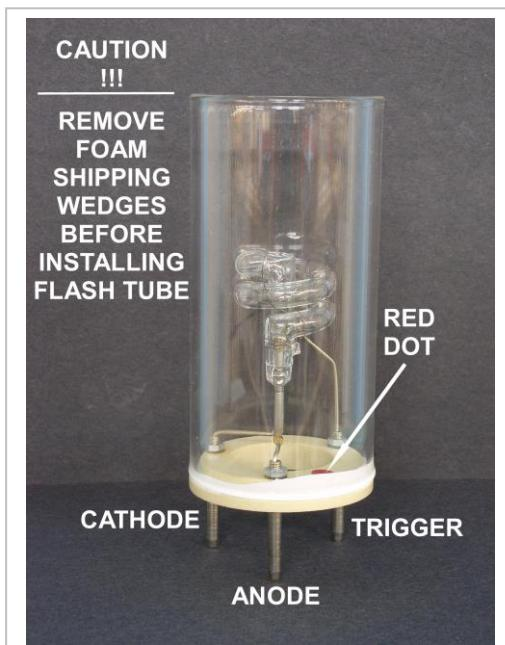

Figure 13a
1. FLASH TUBE (Figure 13a)
| FT 101 | Flash Tube (See Figure 13a) | 55-00360 |